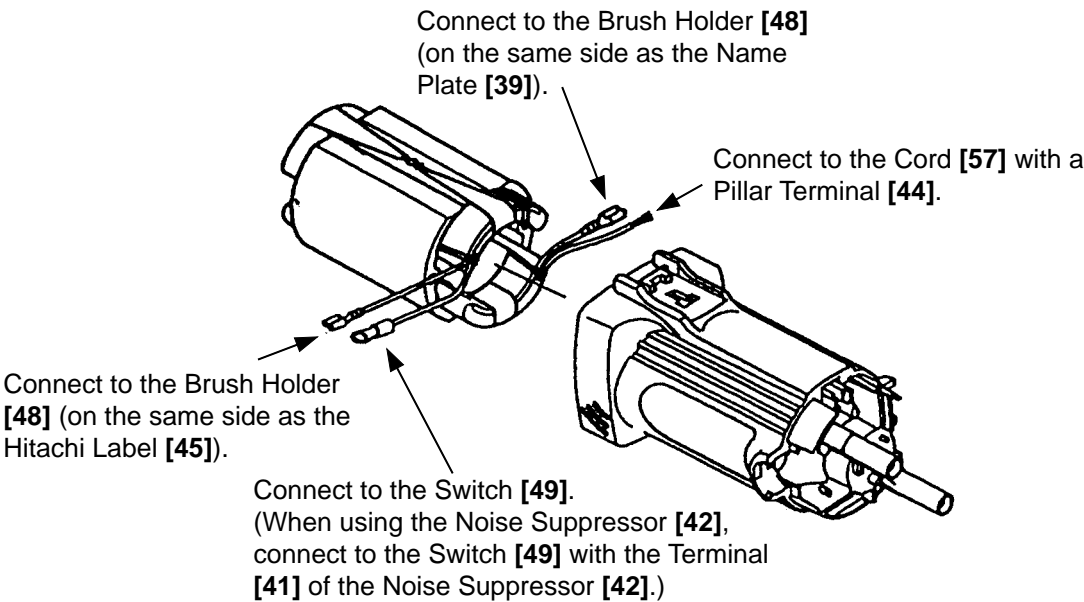

Fig. 5
- (4) When installing the Stator [13] into the Housing Ass'y [38], insert it while taking care of the placement of the internal wires of the Stator [13] as indicated in Fig. 5.
- Connect the four internal wires of Stator [13] with the parts indicated in Fig. 5.